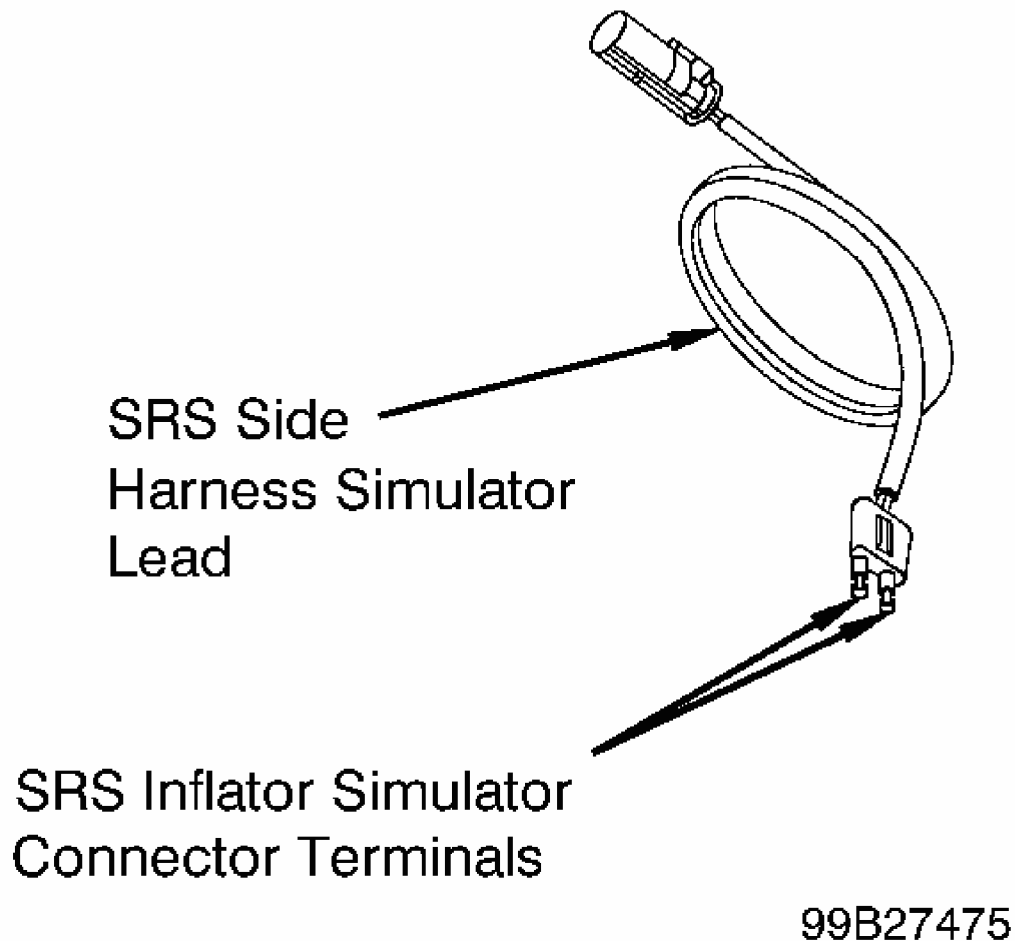

Fig. 46: Identifying Side Air Bag SRS Inflator Simulator Connector Terminals
3. Turn ignition switch to OFF position. Disable air bag system. Disconnect right and left seat belt pretensioner 2-pin connectors. See **Fig. 5**. Access and disconnect SRS harness 28-pin connector "B" from SRS unit. See **SRS UNIT** under REMOVAL & INSTALLATION. See **Fig. 40**. Disconnect SRS inflator simulator from SRS simulator lead. Measure resistance between SRS inflator simulator connector terminals. See **Fig. 46**. If resistance is less than one ohm, check for poor contact between SRS harness 28-pin connector "B" and SRS unit. If connection is okay, replace SRS unit. If resistance is more than one ohm, go to next step.
3. Turn ignition switch to OFF position. Disable air bag system. Disconnect right and left seat belt pretensioner 2-pin connectors. See **Fig. 5** . Access and disconnect SRS harness 28-pin connector "B" from SRS unit. See **SRS UNIT** under **REMOVAL & INSTALLATION**. See **Fig. 40** . Disconnect SRS inflator simulator from SRS simulator. Measure resistance between SRS inflator simulator connector terminals. See **Fig. 46** . If resistance is more than one megohm, replace SRS unit. If resistance is less than one megohm, go to next step.